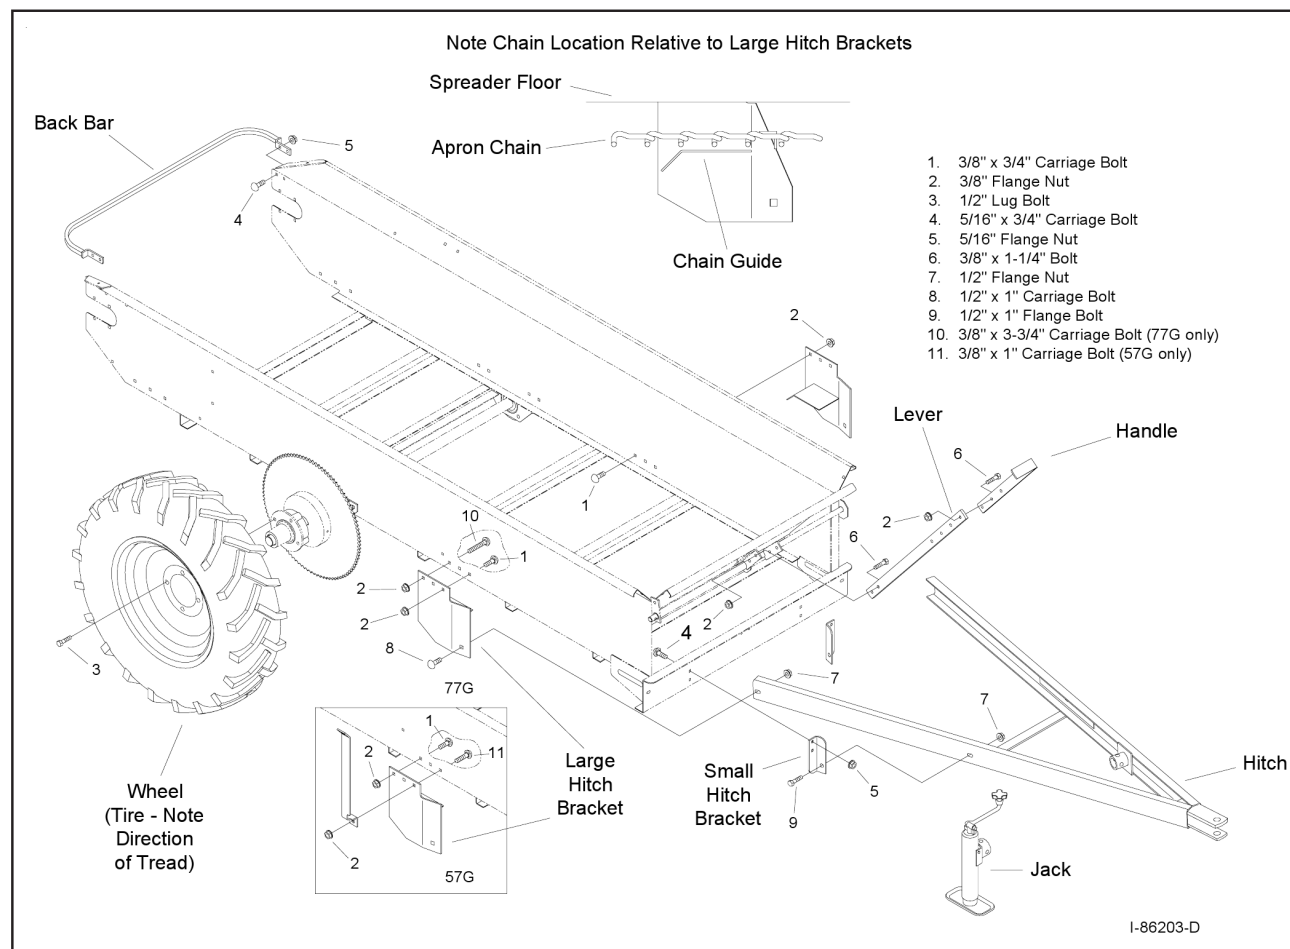

Figure 1 - Detailed Overview of Ground Drive Spreader Assembly
1. Refer to Figure 1.
3. Attach the two larger hitch brackets to the spreader box (one on each side), being sure to position the chain guide under the apron chain as shown in Figure 1. Align the pre-drilled holes on the top of each bracket with the pre-drilled holes on the side sheet of the box. Use the 3/8" x 3/4" carriage bolts and nuts provided. *Note the special instructions for Model 57G ONLY (on the next page).*
- Position the hitch bracket **between** the side sheet and the lift arm guide bracket. Additionally, the chain guide on the hitch bracket must be positioned **under** the apron chain as shown in Figure 1.
1. Refer to Figure 1 for positioning of the jack.
2. Install the operating lever on the lever mounting bracket at the front of the spreader box as shown. Align the two (2) pre-drilled holes at the bottom of the lever with the holes on the mounting bracket. Use the 3/8 x 1-1/4" bolts and flange nuts provided to fasten the lever to the mounting bracket.
1. Refer to Figure 1 for positioning of the back bar.